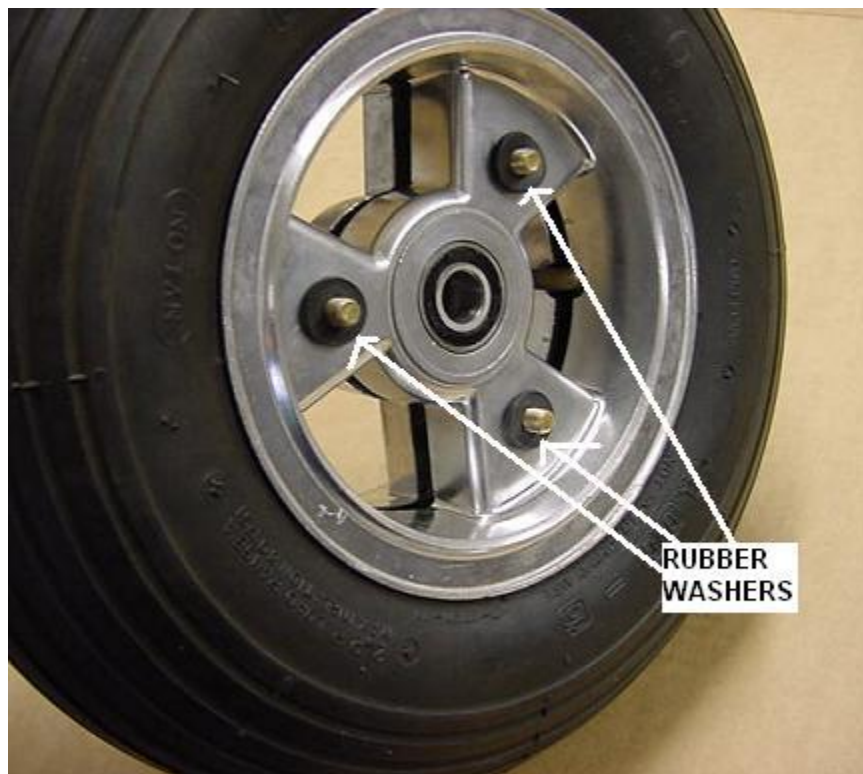

Figure 14 – Rubber Washers
STEP 6C – (Aluminum Rim with 12” diameter standard tire) On the backside of the rim insert 1 rubber washer over each bolt as is shown in Figure 14. These washers are used for fine tuning of the rotor angle to the caliper. The aluminum rims are cast aluminum and therefore are not always square and dimensionally perfect. The rotor may initially have a wobble when the wheel is installed on the axle. The tightness of each rim bolt is set differently to adjust the angle of the rotor thereby reducing the wobble. The rubber washers allow for the adjustment of the rim bolt tightness.